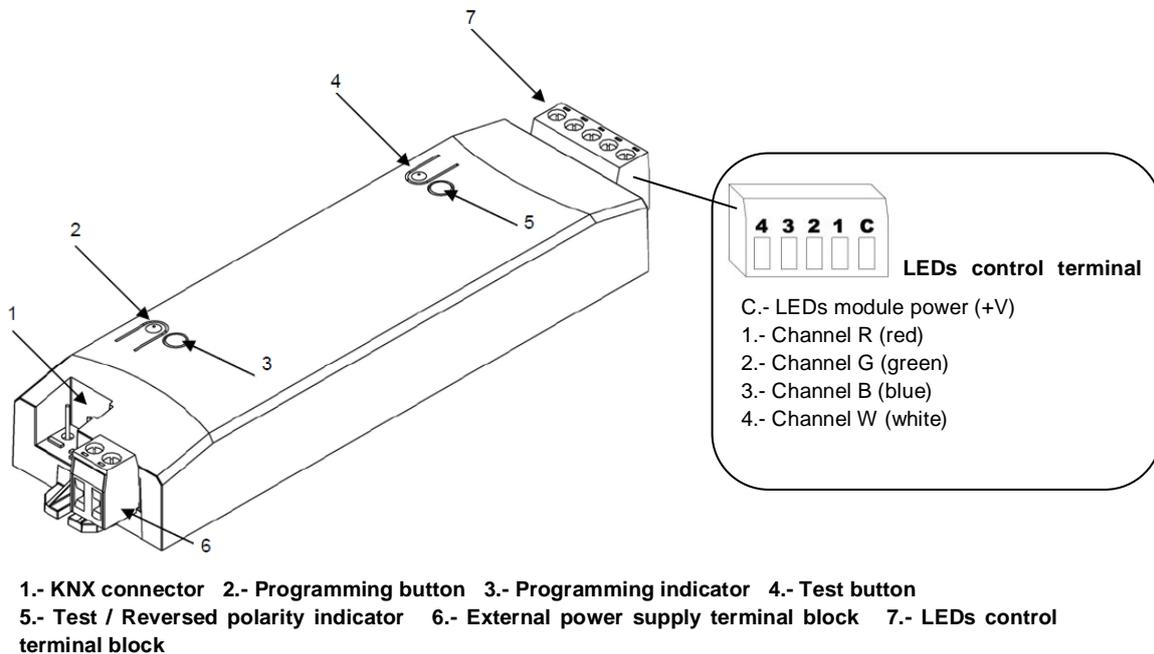

Figure 1.2. QUAD. Connection scheme
In the figure 1.2, the connection scheme of LUMENTO X4 is shown:
It is also provided with the controller a second terminal block with screws for controlling the LEDs (7), where to connect every channel and the power of the LEDs module (+V). In the figure 1.2 appears a scheme of the terminal block, with each of its connection points. **(Note:** *These cables can be screwed onto the terminal block before installing the device and then inserted at a later date*).